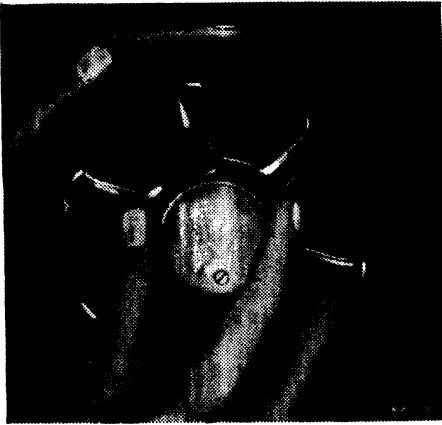
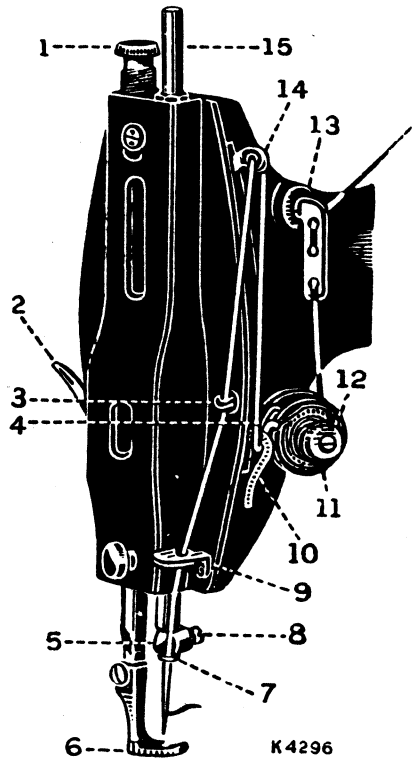
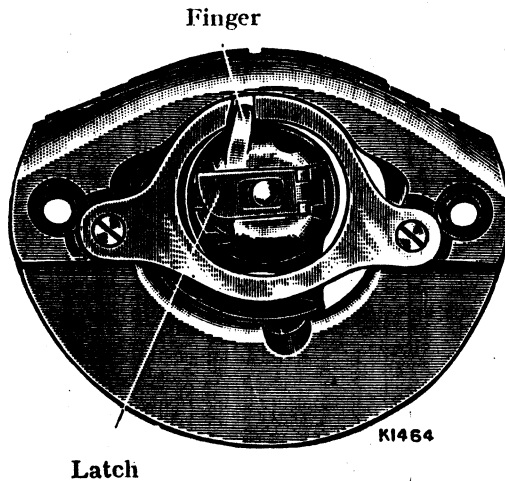

Fig. 1.
Fig. 2.
Fig. 3.
This device allows the machine pulley to run free, so that bobbins may be wound, and correct treading acquired without operating the mechanism. To loosen the pulley, hold it with the left hand, and with the right hand turn the stop motion screw over toward you, as shown in Fig. 1.
NOTE.—If the machine is fitted with stop motion, loosen machine pulley when learning to treadle (see Fig. 1).
When familiar with the working movement, re-tighten the machine pulley (see Fig. 1) if the machine is fitted with stop motion. Place a piece of calico or cloth under the presser foot (6, Fig. 2), lower the latter upon the material by means of the presser bar lifter (2, Fig. 2) and again work the machine, without being threaded, until you have become accustomed to guiding the material.
(See Fig. 2.)
Turn the machine pulley toward you until the take-up lever (14, Fig. 2) is at its highest point, draw open the slide in the bed of the machine and, reaching down the thumb and forefinger of the left hand, open the latch (see Fig. 3) and withdraw the bobbin case.
After threading, hold the bobbin case by the latch between the thumb and forefinger of the left hand and replace it on the centre stud of the bobbin case holder, with its position finger opposite the notch at the top of the shuttle race, as shown in Fig. 3; then release the latch and press the bobbin case back until the latch catches the groove near the end of the stud. Allow the end of thread to hang free, and close the slide in the machine bed.
Raise the thread take-up lever (14, Fig. 2) to its highest point and lift the presser foot; then move the material back and to the left, and sever the threads. Leave the ends of the threads a few inches long under the presser foot.
To increase the pressure, give the thumb screw (1, Fig. 2) a few turns downward. To lessen the pressure, turn the screw upward. Pressure should be only sufficient to enable the feed to move the work evenly.
- The thread take-up spring (4, Fig. 2) being broken.
Stitches Looping.—This is regulated by the tensions (see page 11). See that both the bobbin case and the needle are properly threaded, and that the thread used is of good quality and the correct size for the needle (see Table on inside of back cover). Make sure that the thread take-up spring (4, Fig. 2) is not broken.